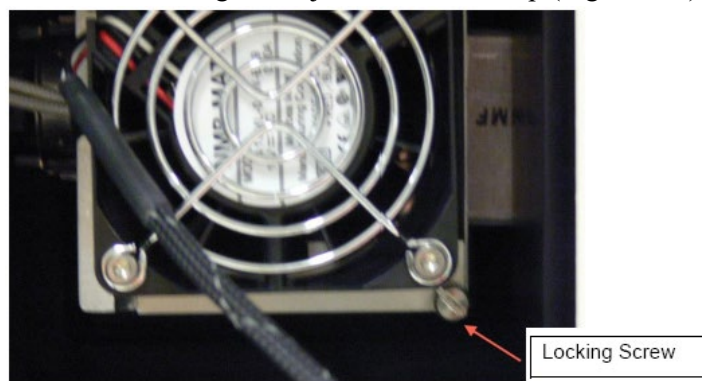

Figure 104. Locking screw below the lamp.
- c. Loosen the locking screw just below the lamp (Figure 104).